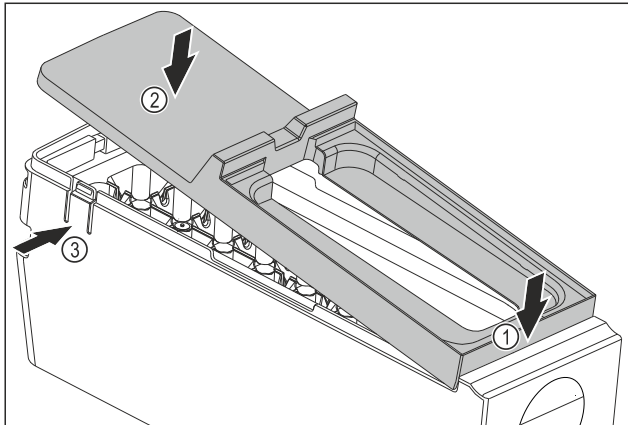

Fig. 151
- ▶ Installing the EasyTwist-Ice body cover: Place the cover on the front. Fig. 151 (1)
- ▶ Lower the cover at the rear. Fig. 151 (2)
- ▷ The cover locks into both tabs Fig. 151 (3) audibly.